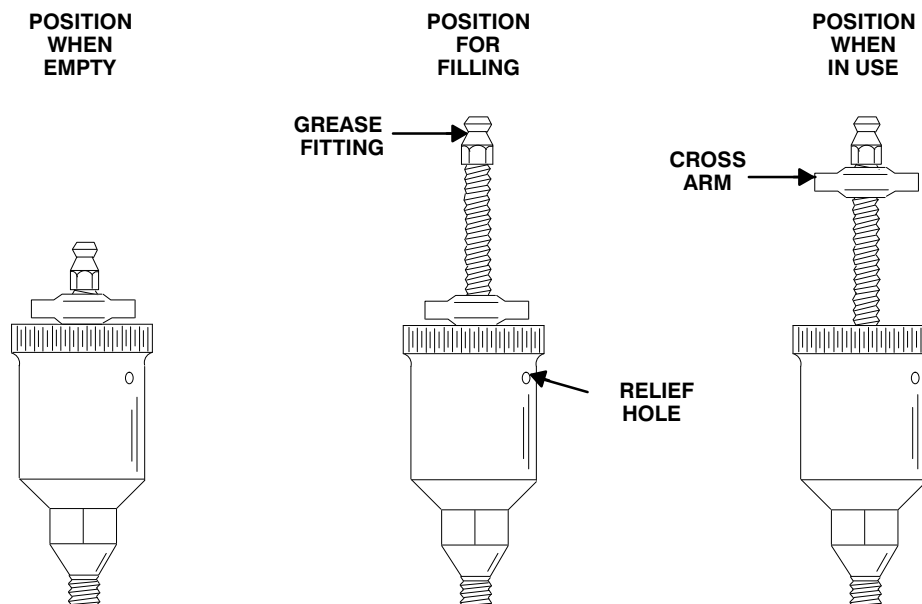

Figure 4. Automatic Lubricating Grease Cup
Before removing the impeller, turn the cross arm on the automatic grease cup (11) clockwise until it rest against the cover (see Figure 4). This will prevent the grease from escaping when the impeller is removed. Remove the grease cup and piping (11, 12 and 13).
Fill the grease cup (11) through the grease fitting with No. 2 lithium base grease until grease escapes from the relief hole. Turn the grease cup arm counterclockwise until it is at the top of the stem; this will release the spring to apply grease to the seal (see Figure 4).